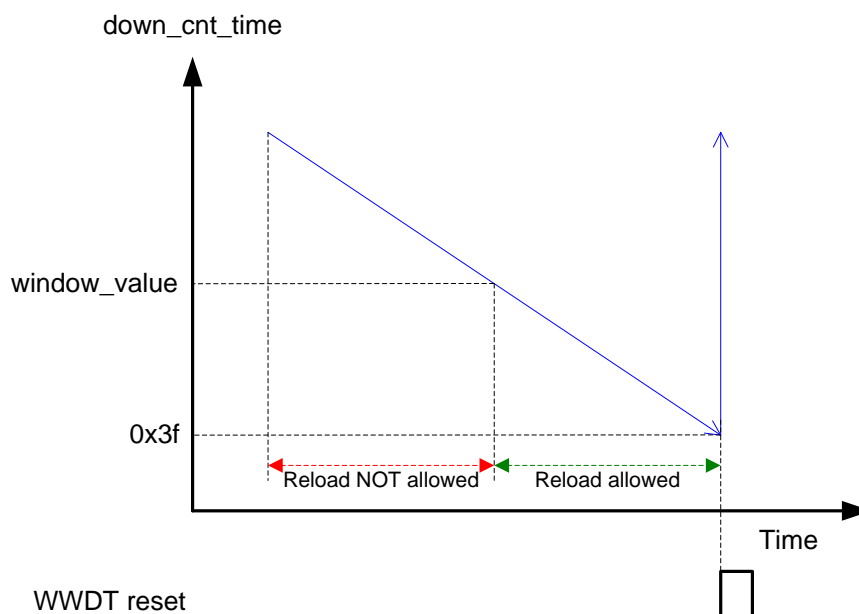

Figure 53 Timing Diagram of WWDT
- Program the Watchdog Timeout: The timing diagram of WWDT is depicted as Figure 53. Below is the formula to calculate the time out value: